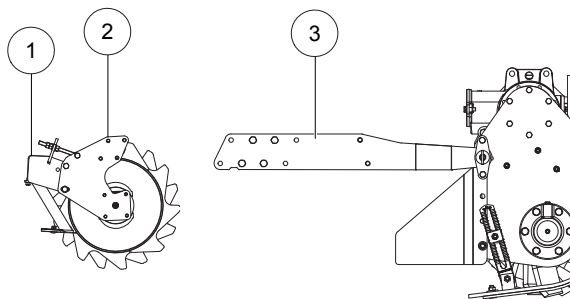

FIG. 9
- Impede the rotation of the scraper holder bar (1, "Fig. 9").
- Place the roller on the ground with the support plates (2, "Fig. 9") set in the assembly direction.
- Sustain the roller holder bar (3, Fig. 9) with proper supports to prepare the fitting of the roller